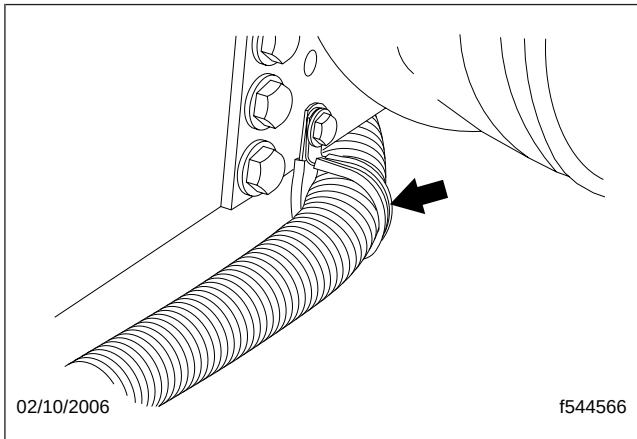

Fig. 1, P-clip Installation
5. Remove the existing P-clip bracket, and install the new one. The new bracket supports the P-clip on the front of the radiator. See Fig. 1.